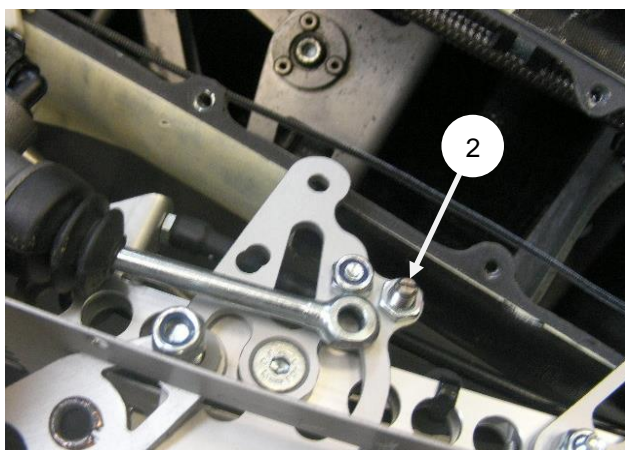

Fig. 5 – Turbo detent
- 11 Mount turbo detent (Fig. 5, 2)